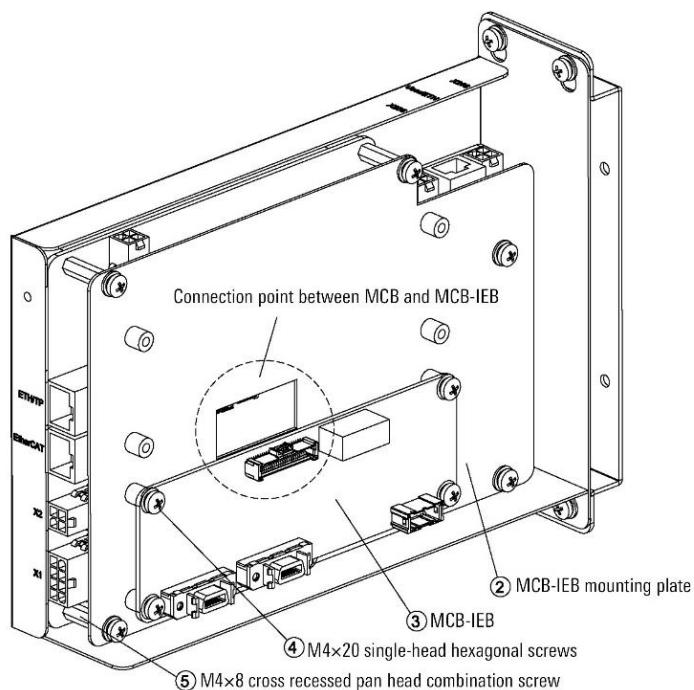

Figure 18-40 Install MCB-IEB
Step3. Pass the MCB-IEB mounting plate through 5 M4×20 single-head hexagonal screws and 5 M4×8 cross recessed pan head combination screws are fixed on the MCB, and MCB-IEB is passed through 4 M4×8 cross recessed pan head combination screws fixed on MCB-IEB mounting plate, refer to Figure 18-40.